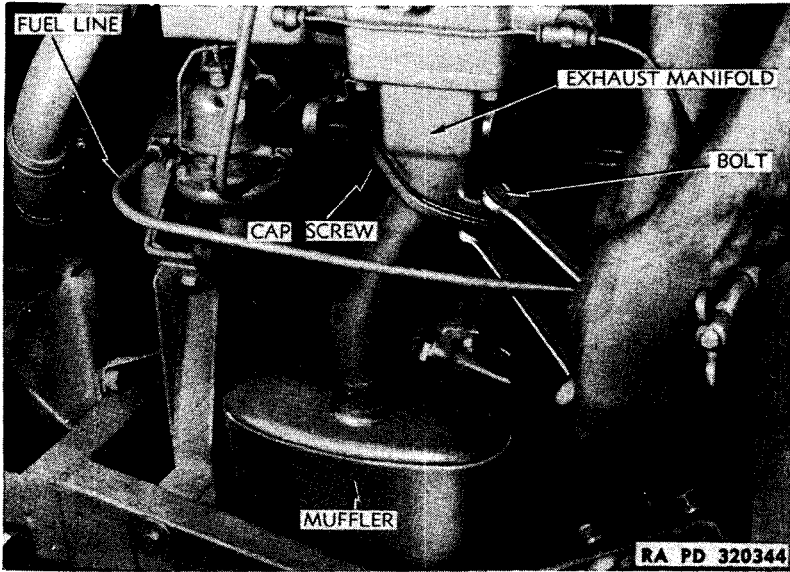

Figure 43—Removing Muffler Assembly
(1) **REMOVAL.** Remove ski or wheel from carrying position on left side of tractor. Remove left engine hood side plate. Remove six bolts and seven cap screws holding lower engine side plate, and remove lower side plate. Disconnect fuel line at front of fuel pump. Remove one cap screw and one bolt holding muffler assembly to manifold (fig. 43). Remove muffler assembly and gasket.